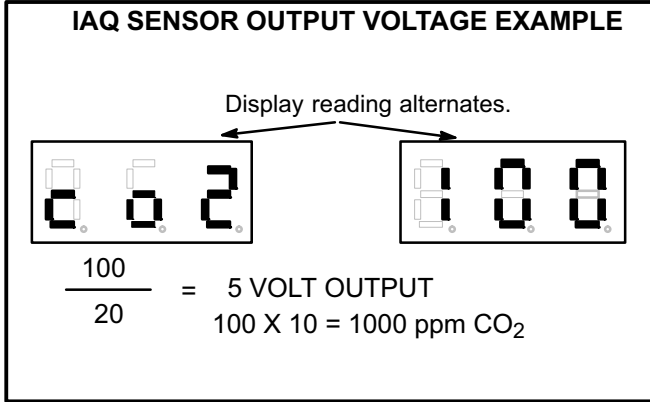

FIGURE 54
- 2- Toggle pushbutton until cO2 reading is alternately flashing with an output reading. Figure 54 shows an output reading of 100.
- 3- Divide output reading by 20 to get IAQ sensor output voltage. See figure 54.